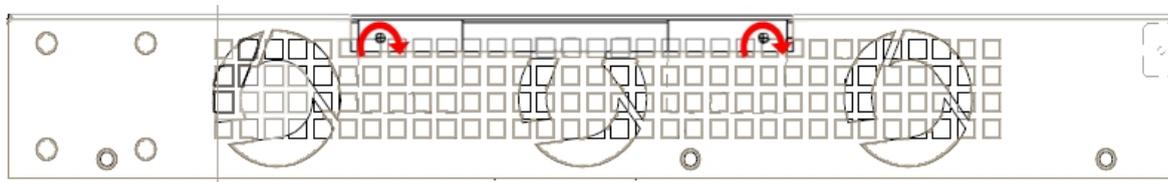

Fig. 14: Replace the screws on the top panel flap
- (11) Replace the top panel flap and screw it into place using the screws. Please see Fig. 14 on page 9.
- (12) Connect and switch on the device, as explained in section Connecting on page 17. Should you detect any problems, switch off the device and make sure that the above steps have been carried out correctly. If the problem persists, please contact your supplier.
- (13) Connect a terminal to the console and check that the device detects the PMC board: